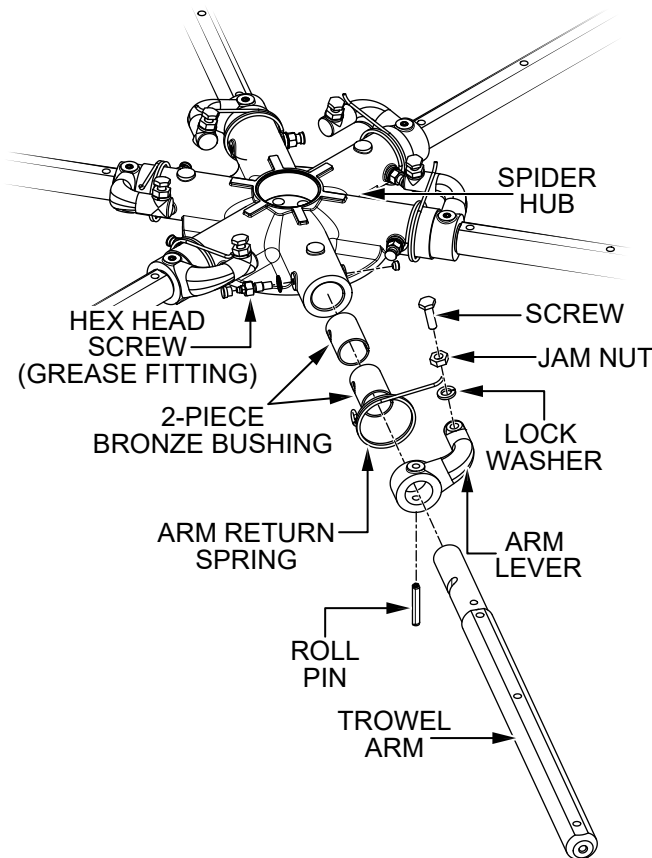

Figure 48. Trowel Arm Removal
- Each **trowel arm** is held in place at the **spider hub** by a hex head screw (Zerk grease fitting). Remove the **hex head screw** (Figure 48) from the spider hub.
- Remove the **trowel arm** (Figure 48) from the **spider hub**.